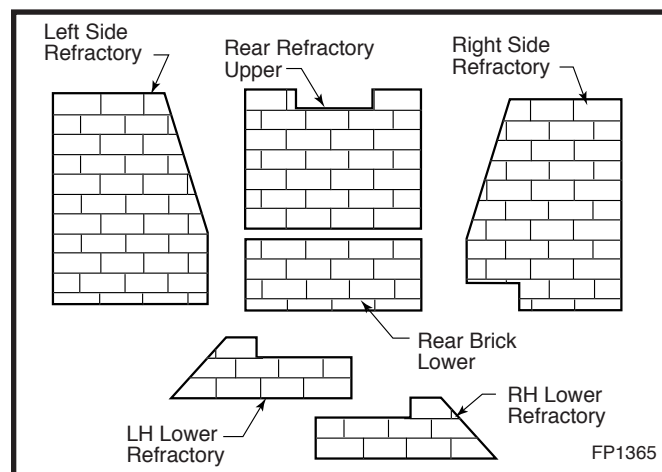

**Fig. 38** Fresh air restrictor plate adjustment.
5. Adjust the fresh air restrictor plate setting. (Fig. 38) Simultaneously install the plate and the log bracket using the three (3) screws loosened or removed earlier. The adjustment is made by matching the proper setting on the plate with the three (3) holes on the firebox back.